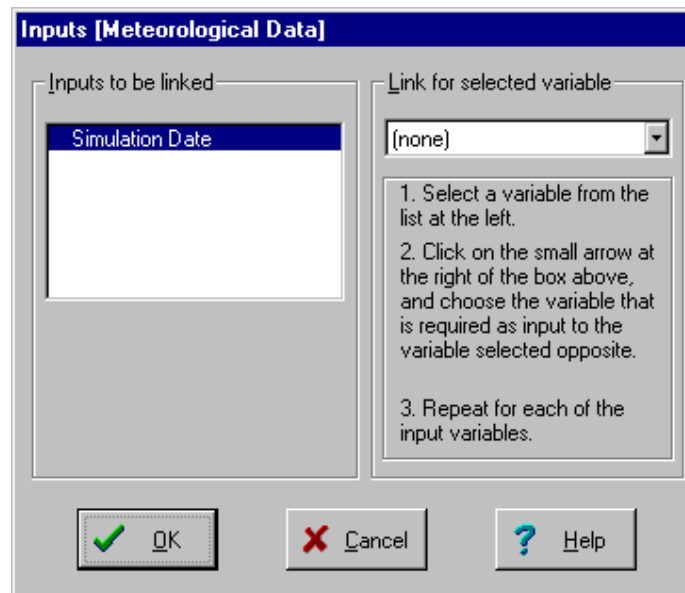

Figure 3-1 The “Meteorological Data” module “Inputs” link dialog
13. Select the **“Inputs”** button to produce the **“Inputs”** link window (Figure 3-1)